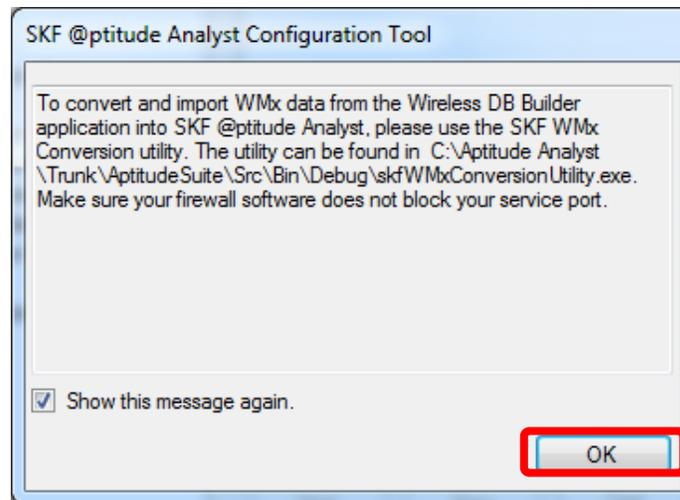

Figure 4. WMx Service message
3. A small message box will be displayed. [Figure 4] This message states the legacy data from Wireless DB Builder can be imported using the **skfWMxConversionUtility.exe** utility. The message also specifies the location where this utility can be found.